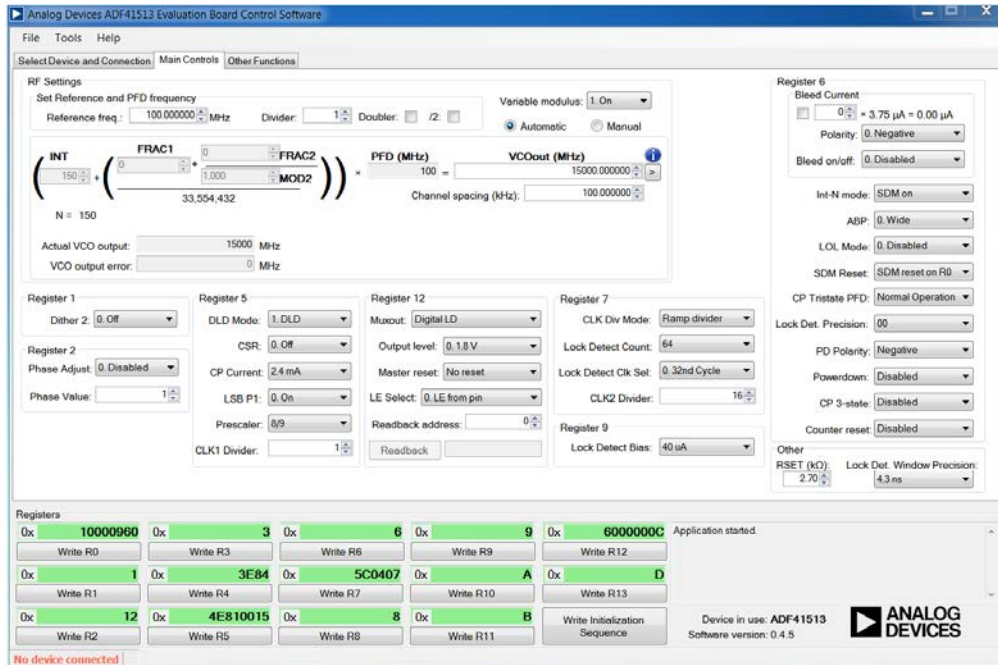

Figure 6. Software Front Panel Display, **Main Controls** Tab
The **Main Controls** tab (see Figure 6) selects the RF and user configurable register settings. Consult the register descriptions of the **ADF41513** data sheet for details. The default setting is recommended for most registers.
10. Click the **Main Controls** tab, and set the **VCOout (MHz)** box to a frequency of 15,000 MHz (see Figure 6).